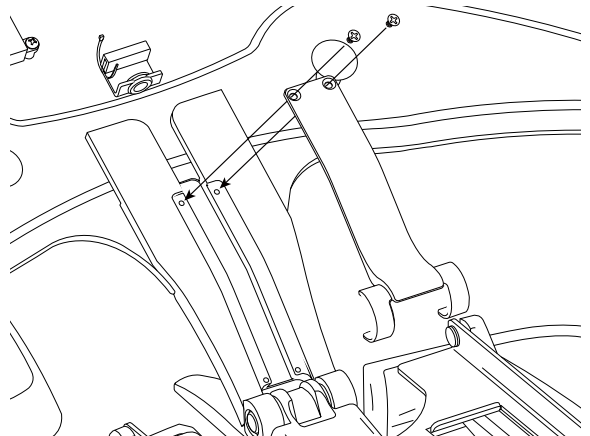

Figure 10. Installing the backrest wire cover
- 6** Install the Backrest Wire Cover (Figure 10).